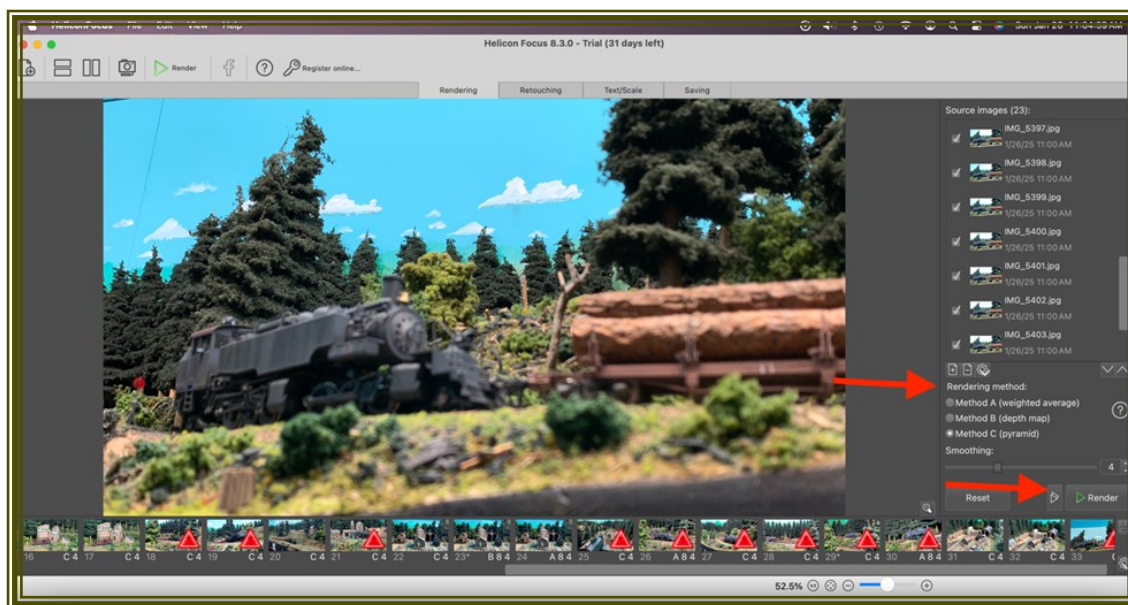

Figure 4 Images Loaded in Helicon Focus
- The “Open Images” command will open up a familiar Finder window where you can navigate to wherever the images you just uploaded reside. Then select all of them and click “Open”. This will cause thumbnails of the images to appear on the right side of the Helicon Focus screen, and one of the images (maybe the first one?) will appear large on the screen. Reference Figure 4. In this example image the tree at left is in focus and most of the rest of the image is not.
- Then it’s time for the “magic”. In Figure 4 note the “Render” button at lower right. Clicking this button will cause the program to do the stacking and produce one integrated image from the 15-25 or so images that were loaded. Note the “Rendering method” selection right above the “Render” button. There are three ways to do the rendering: (A) weighted average, (B) depth map, and (C) pyramid. I don’t know what they mean, but I found that they can make a difference. I found that the default Method B gave me strange gray borders around the clouds when my backdrop with its painted clouds appeared in an image, but that the unwanted stuff disappeared when I selected Method C. So if the result isn’t perfect, try a different rendering method. The rendering process only takes a few seconds.